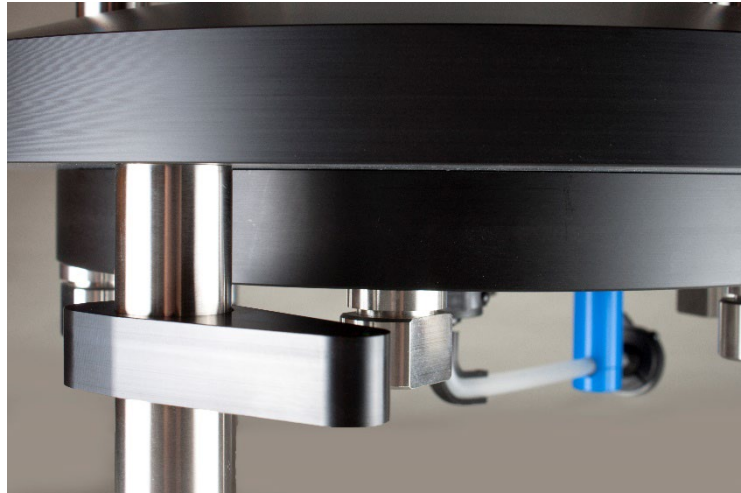

Figure 18: Photograph showing position of fixed end support blocks to enable relocation of the flow cell
4. Ensure the support blocks are turned outwards to allow the flow cell to be located. See Figure 18 below.